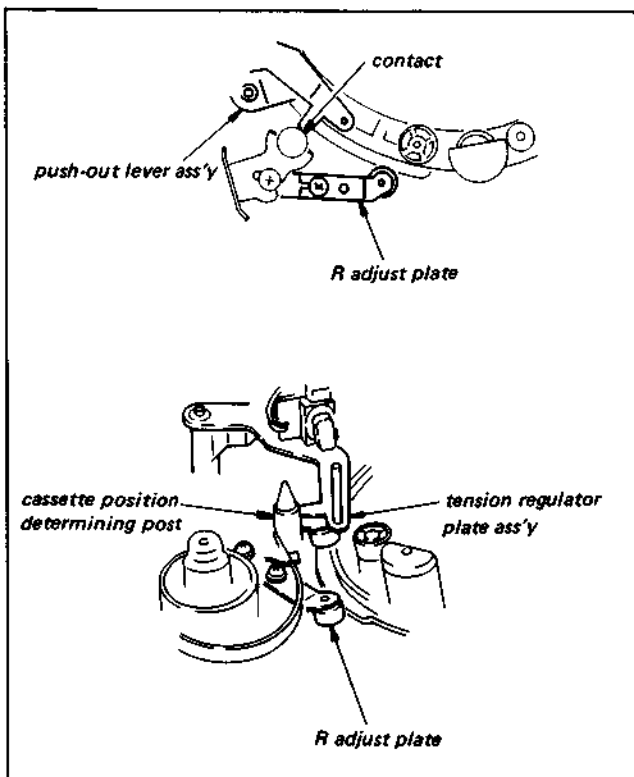

Fig. 3-19. Ring arm clearance adjustment
- 3) Confirm that the tension regulator arm plate assembly is in contact with the boss of the cassette position-determining post. (See Fig. 3-19)